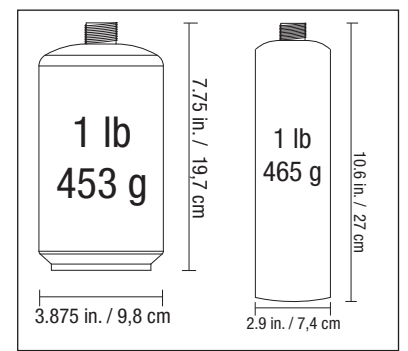

Figure 2
1. Make sure the regulator/control knob is in the “OFF” position (Figure 2).
1. Turn the regulator/control knob to the “OFF” position (Figure 2).
2. Make sure regulator/control knob is in the “OFF” position (Figure 2).
4. Make sure regulator/control knob is in the “OFF” position (Figure 2).
1. Turn regulator/control knob to the “OFF” position (Figure 2).